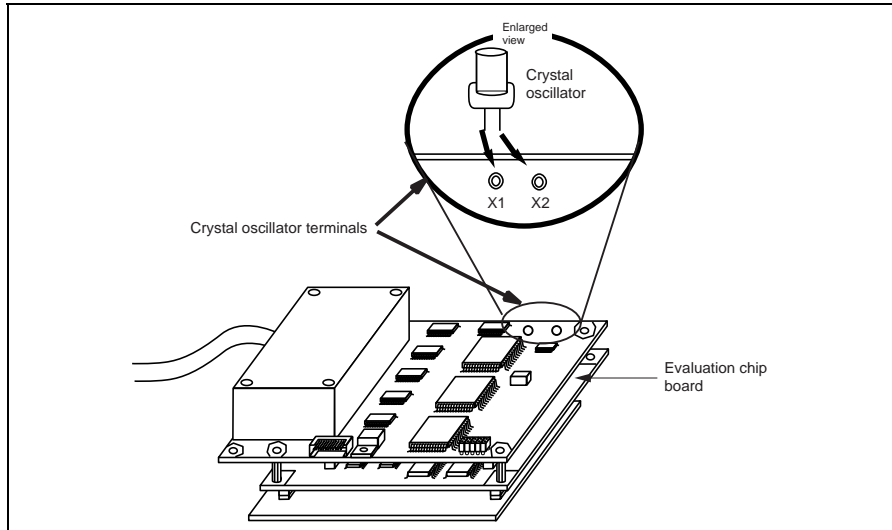

Figure 2.6 Installing the Crystal Oscillator
2. Attach the crystal oscillator into the terminals on the evaluation chip board (figure 2.6).